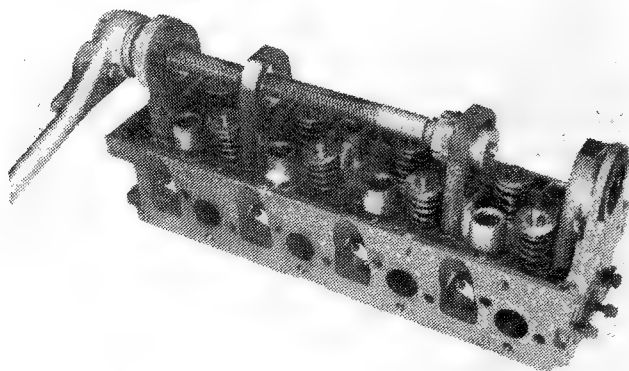

FIG. 40 Removing Camshaft Bearings
8. Remove or replace the camshaft bearings with tool T65L-6250-A (Fig. 40) and adapter T72C-6250 or tool T71P-6250-A.